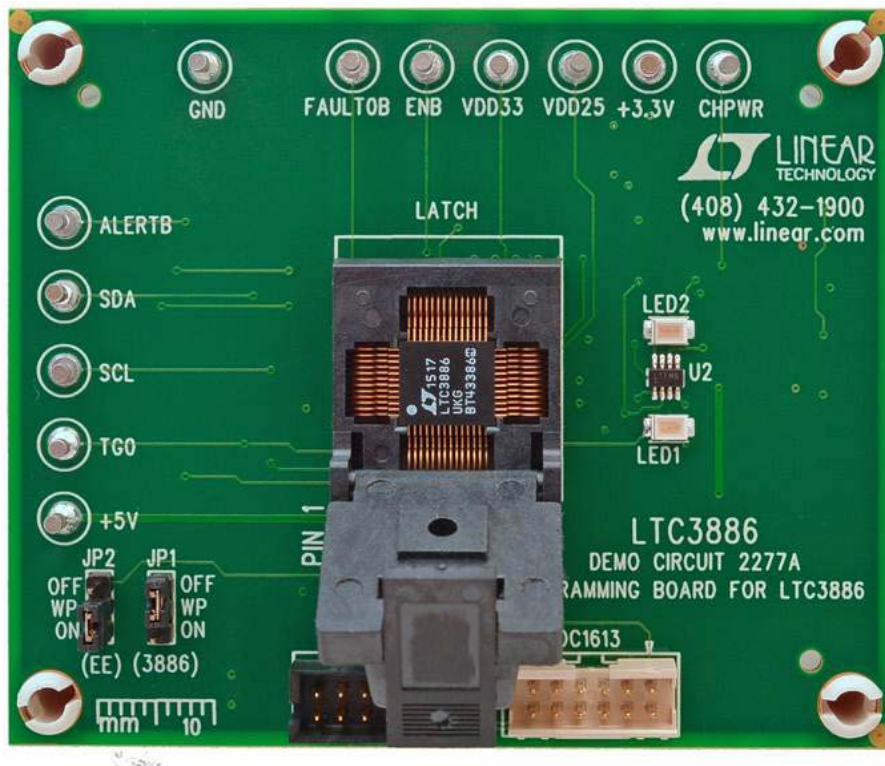

Figure 2. Open Shell. Verify IC Installed
2. Open the lid of the socket. Verify there is an LTC3886 inside. See Figure 2.